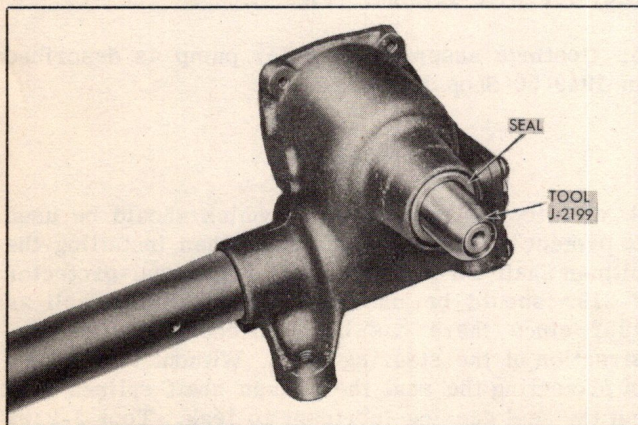

Fig. 3 Pitman Shaft Installed
2. With seal installed in housing, install pitman shaft into housing. Seal protector will slide through seal (Fig. 3).